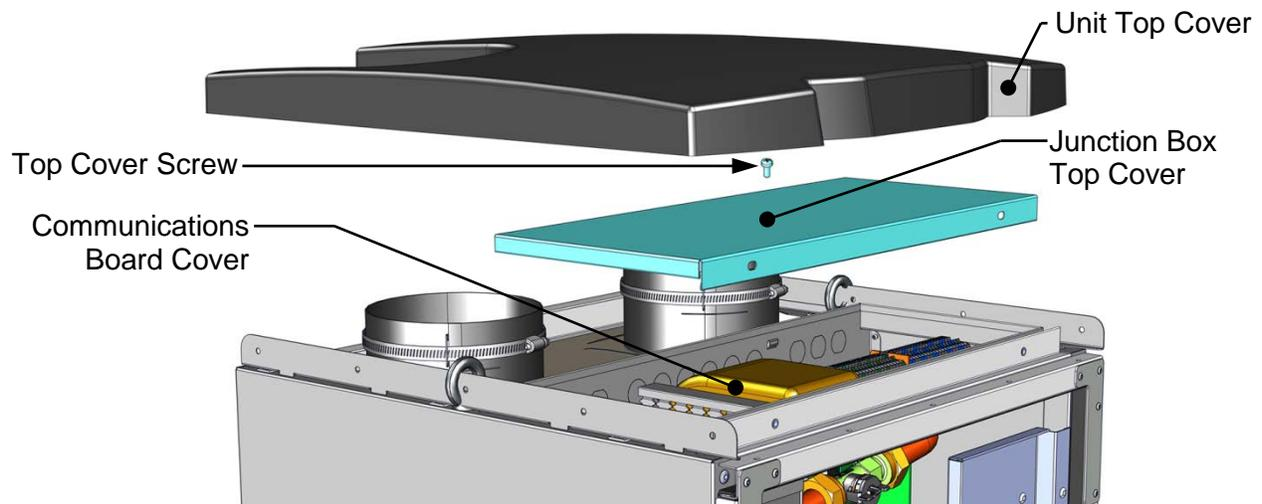

Figure 1-2: Accessing the Junction Box of the Master Heater
Access the electrical junction box as shown in Figure 1-2. Two wiring schematics (Figures 13a and 13b) are shown on the following pages that show wiring for earlier and later manufactured units. Determine which unit you have according to the two following conditions (a or b), then wire according to the referenced figure number:
1. Gain access to the inside of the electrical junction box by removing the unit top cover and the electrical junction box top cover (see Figure 1-2).
See Section 1.2 and Figure 1-2 for how to access the electrical junction box and wiring terminals within. See Section 2 for operation of the unit and how access menus and parameters.